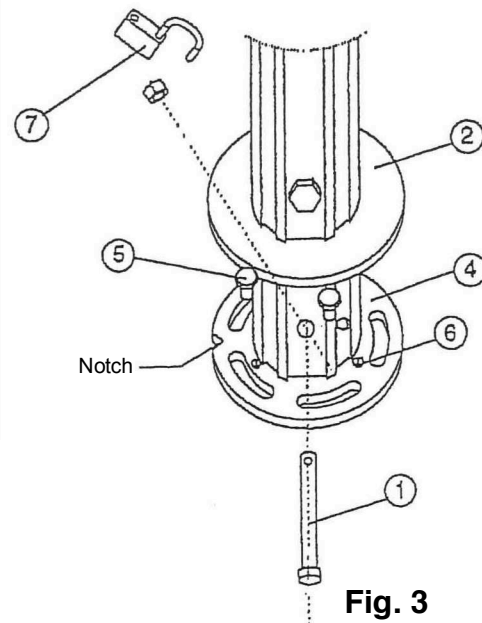

Fig. 3
- Lift the sunshade to an angle of about 30° and place the upright tube wedge (3) in the ground socket.
- Raise the shade up until the upright tube ring (4) lies flat on the ground socket ring (Fig. 3).
- Hold the sunshade vertically, lift the screw cover plate and insert the 5 anchoring screws (5), but do not tighten them yet.
- If the sunshade does not stand exactly vertical: Loosen anchoring screws(5) slightly and adjust with levelling screws (6).
- Lower the screw cover plate (2) onto the upright tube ring, insert the connecting bolt (1) above the cover plate, tighten and if necessary lock (7).